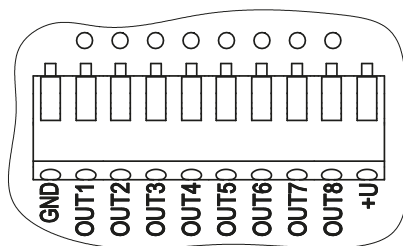

Fig. 6: Outputs
- ⑤ Spring terminal 9-pole (see Fig. 3 and Fig. 6)